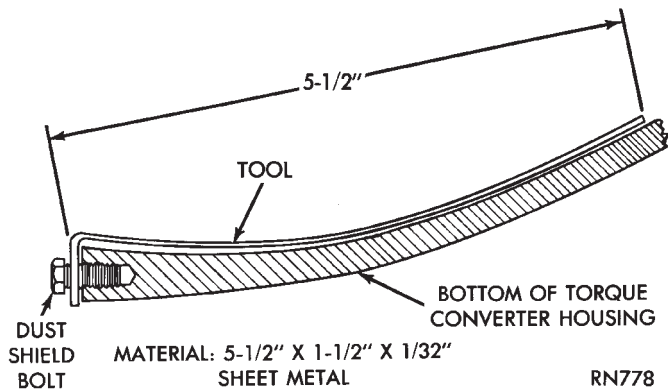

Fig. 16 Leak Test Probe
- (1) Raise rear of vehicle and allow accumulated fluid to drain out of converter housing.
- (2) Check and adjust transmission fluid level.
- (3) Raise vehicle. Remove converter housing dust cover and wipe as much fluid as possible from converter housing.
- (4) Fabricate test probe (Fig. 16). Attach probe to converter housing with a dust shield bolt.
- (5) Have a helper run engine at 2500 rpm (with transmission in Neutral) for two minutes; then stop engine.
- (6) Inspect test probe and converter housing. If a leak is evident, note color of fluid. Transmission fluid is red. Engine oil ranges in color from brown to green, or to black when oil is dirty.